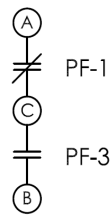

Figure 7 – Power Failure Contacts
A power failure relay is provided to disconnect the automatic control from the battery and, therefore, limit the drain on the battery. One (1) set of normally open and closed contacts from this relay is connected to terminals for connection to a remote power failure alarm; refer to Figure 7. The charger will automatically resume charging upon return of AC power.